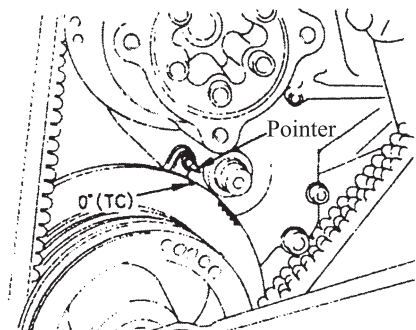

Fig. 1-11
(1) Turn the crankshaft clockwise and make the “TC” mark of belt wheel shock absorber coincide with the needle.
(2) Open the manhole cover and make sure the mark of the bottom plate and position of the needle. If the mark of the bottom plate coincides with the needle position, it indicates the upper dead point on the compression stroke of the first cylinder, adjust the clearances of the air gate with “ Δ ” and “ $\times$ ” as well. The clearance valve of the air gate: 0.4mm (When it is under cooling state, the air suction and exhaustion are of the same valve.) For details, please refer to Figs 1-11, 1-12, 1-13.